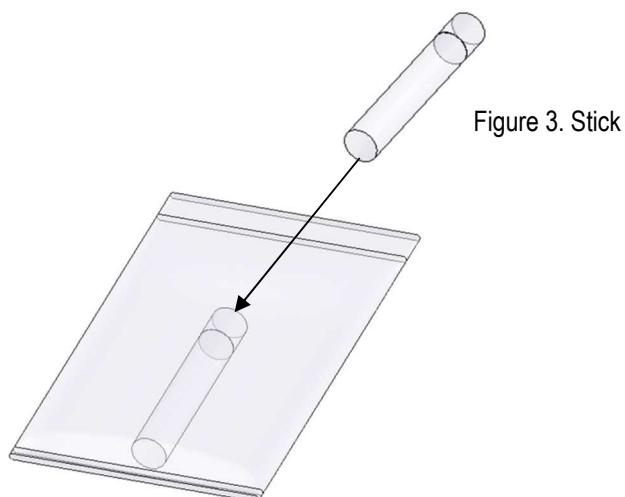

Figure 4. Stick and Plastic bag (Small bag)
- (1) Put one product into one stick.
- (2) Put one Stick into one plastic bag (small bag) as shown in figure 4.